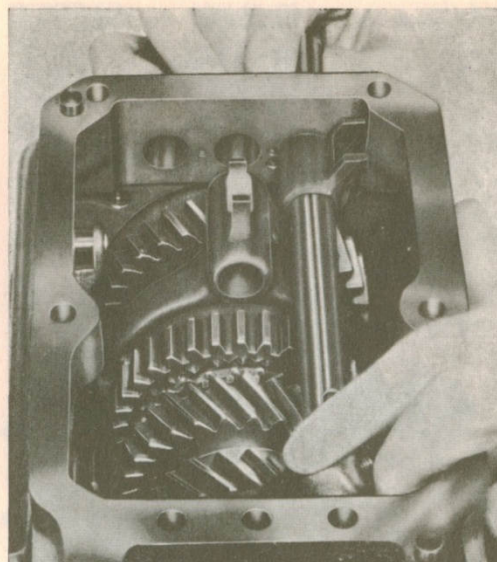

Fig. 3-31. Fitting the shift forks and rails
8. Fit shift rails and forks. Place both forks in position before fitting the rails, see Fig. 3-31. Move over the shift fork (37) to 1st speed position when fitting the pin. Use a new pin. Fit the cover over the shift rails.